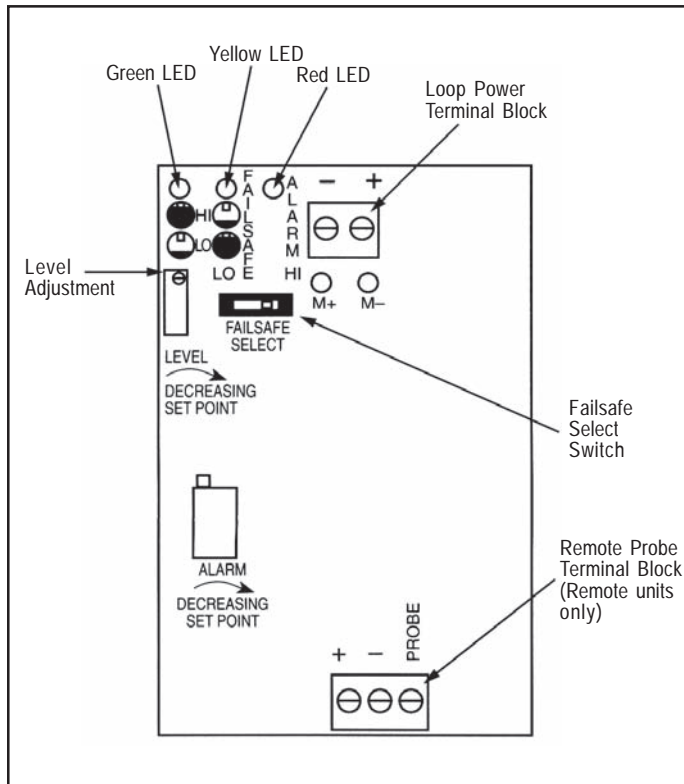

FIGURE 10
5. Apply 12 - 28VDC loop power to + and - terminals , move failsafe select switch to LO position and observe the green LED. (See Figure 10.)
4. Locate Loop Power Terminal Block on the control board. (See Figure 10.) Terminals are labeled “+” and “-”. Connect power leads to the proper terminals.